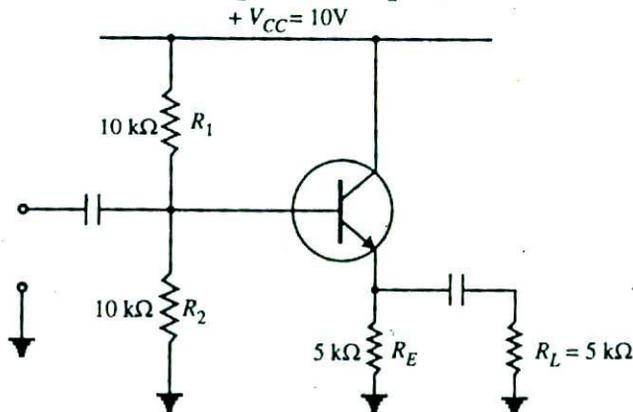

Fig. 15.19
**Solution.** When a load of  $5 \text{ k}\Omega$  is added to the emitter follower; the circuit becomes as shown in Fig. 15.19. The coupling capacitor acts as a short for a.c. signal so that  $R_E$  and  $R_L$  are in parallel. Therefore, the external emitter resistance  $R_E$  changes to  $R'_E$  where